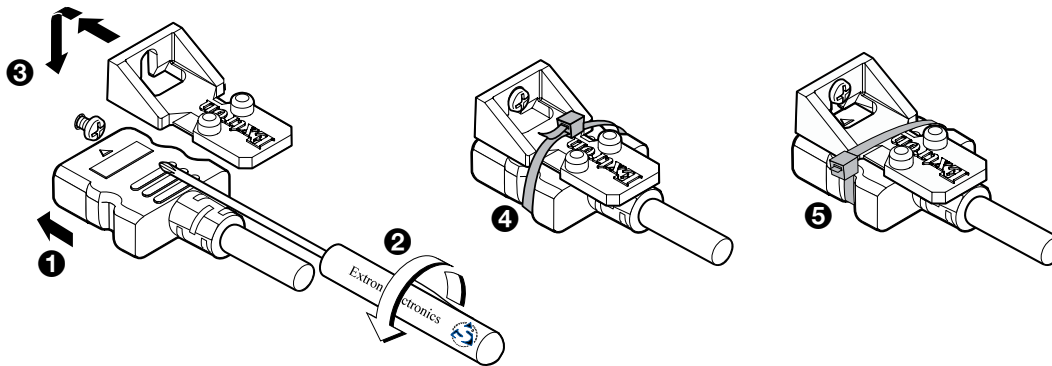

Figure 3. Connecting HDMI Cable to LockIt Lacing Bracket
1. Plug the HDMI cable into the rear panel connection (see figure 3, ①).
2. Loosen the HDMI connection mounting screw from the panel enough to allow the LockIt Lacing Bracket to be placed over it (②). The screw does not have to be removed.
3. Place the LockIt Lacing Bracket on the screw and against the HDMI connector (③), then tighten the screw to secure the bracket.